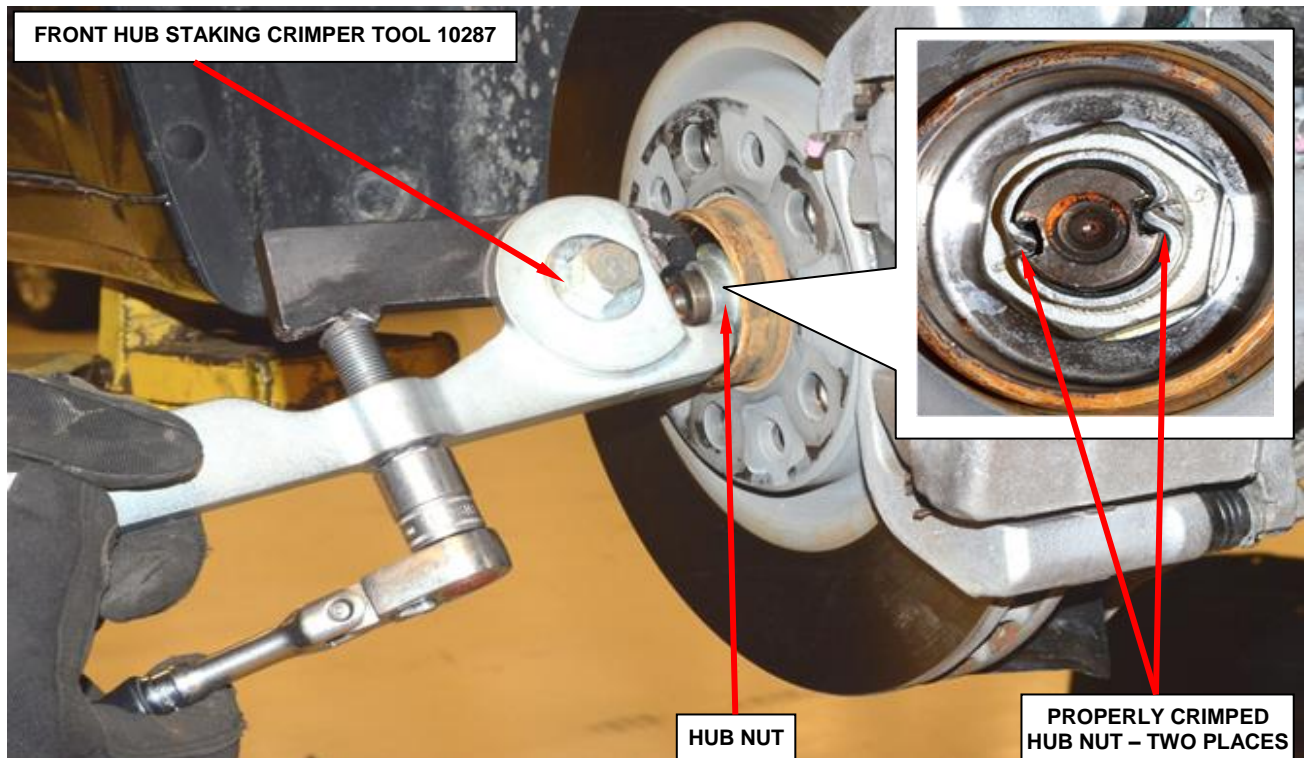

Figure 6 - Crimp Halfshaft Hub Nut with Special Tool 10287
NOTE: Revised callout locations on Figure 6. Revised NOTE on page 6.
18. Using the Tool, Front Hub Staking 10287, align the leading cutting edge of Tool, Front Hub Staking 10287 with the top left side channel on axle as shown. Tighten fastener on Tool, Front Hub Staking 10287 with hand tools until the threads bottom out completely (Figure 6).
NOTE: The hub nut must be staked so that it looks similar to Figure 6. Both edges must be split and bent into the shape shown. The staking must be opposite of the direction to tighten the nut.